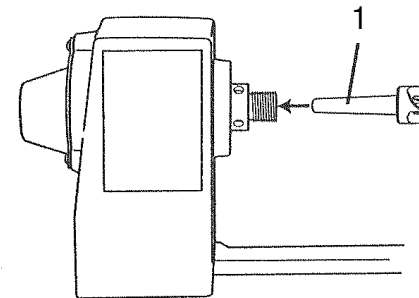

Fig. 5
1. Insert the shaft of the spur (1) into the hollow center to the headstock spindle. (Fig. 5)